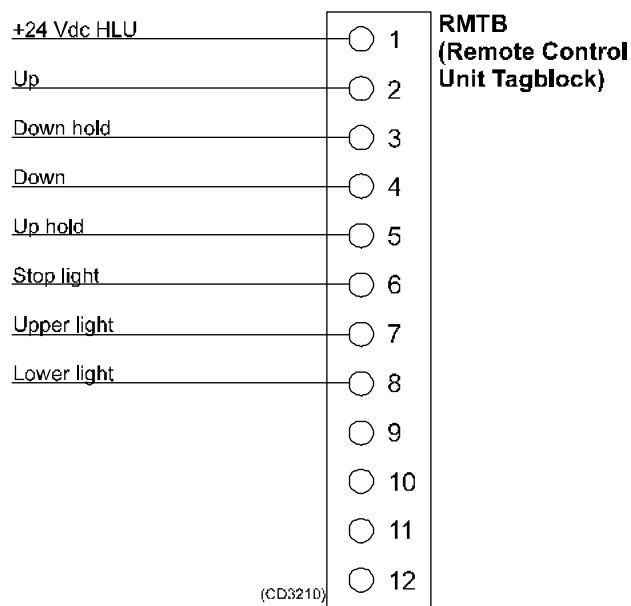

Figure 32 Cable connections
- 7 Referring to the cable gland assembly procedure and wiring diagrams located in the *Cable layout and interconnections* document, and the terminal block diagram in figure 32, install the interface cable.